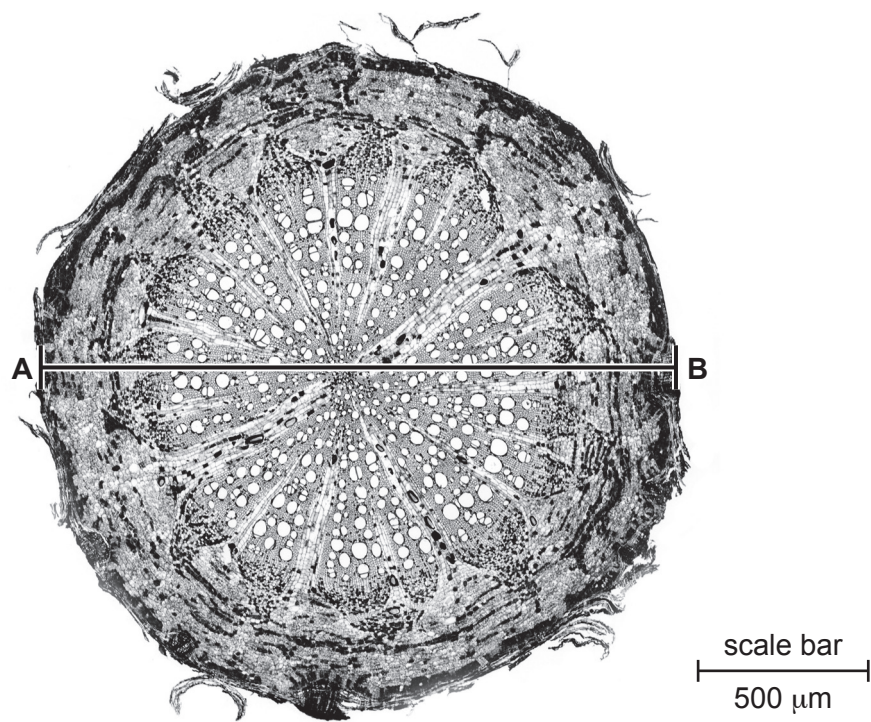

Fig. 2.2
(b) Fig. 2.2 shows a photomicrograph of a transverse section through a different root.
- (i) Identify **three** observable differences, other than colour, between the root section on **K1** and the root section in Fig. 2.2.
- (ii) Line **A–B** represents the diameter of the root in Fig. 2.2.
Use the scale bar on Fig. 2.2 to calculate the **actual diameter** of the root.
- (iii) Use your value from **(b)(ii)** to calculate the magnification of Fig. 2.2.